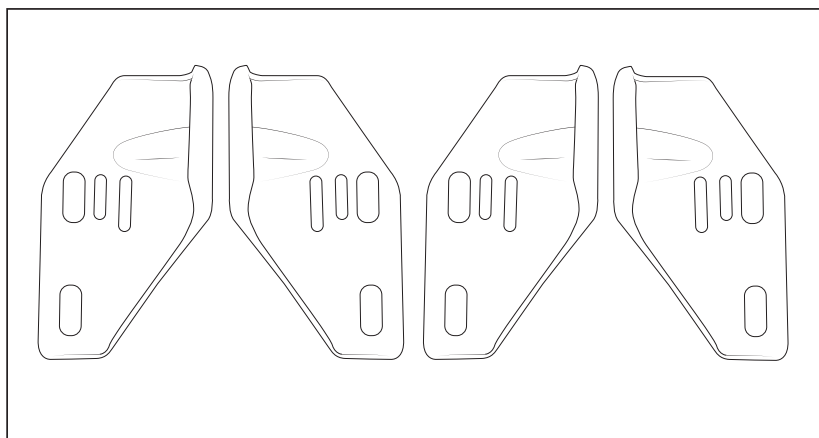

Figure 9
11. Retain the factory tow hook brackets if equipped (fig. 9)
19. Retain the factory tow hook brackets if equipped (see fig. 9)